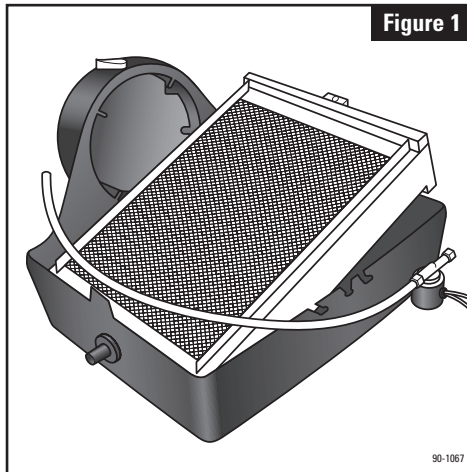
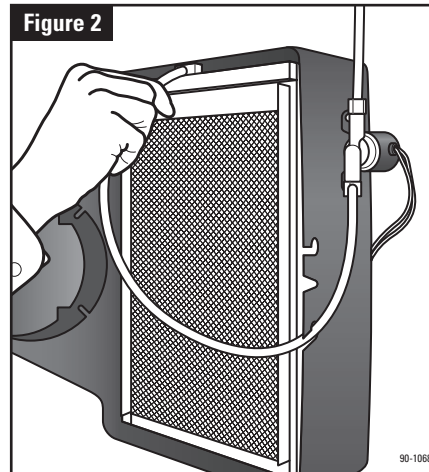

Figure 1
Figure 2
- Remove front cover by pressing center tabs on top and bottom of the cover (1) and base (2). Pull feed tube (3) out of the water distribution tray (4). Tip the Water Panel® Evaporator assembly forward and lift it out of the humidifier. (See Figure 1)
- The humidifier comes assembled for left side discharge. If converting to right side discharge, the base can be rotated so round collar is facing to the right. Swap the location of the hole plug (10) and drain spud (9) if using a right side discharge. To remove the cap, push and twist from inside the housing while lifting the cap up slightly on the outside. To remove the drain spud, twist and push from the outside of the base.
- Reinstall the Water Panel® Evaporator assembly back into the base, with the bottom of the scale control insert (6) sitting firmly in the inside of the drain spud (9). Push the
- feed tube back into the water distribution tray. (See Figure 2) Put the front cover back on. If the nameplate (11) is upside down, remove it by gently squeezing the tabs of the nameplate from inside the cover and pushing out. Rotate the nameplate so it is right side up, and snap back into place. Turn damper handle (8) to the open position "WINTER" for the heating season, or closed position "SUMMER" for the cooling season.